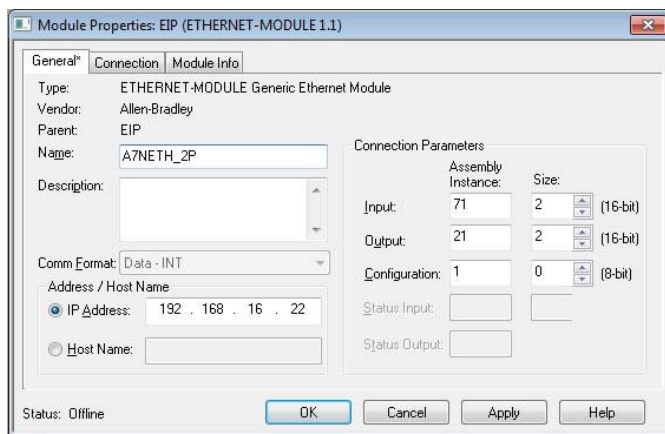

Figure 34: AC/DC Drive Profile Generic Ethernet Module Configuration
- 1) Complete all the steps in section 9.2.12. Please note that the Assembly Input Instance must be changed to 71 and the Assembly Output Instance must be changed to 21. Refer to Figure 34.